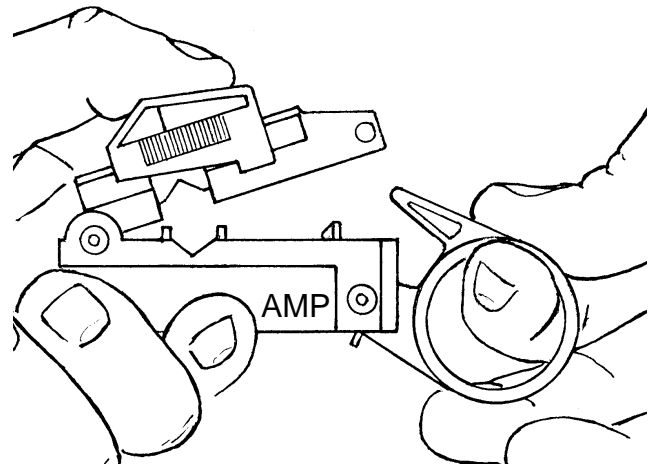

Figure 18
1. Open the tool by rotating locking latch downward as shown in Figure 18.